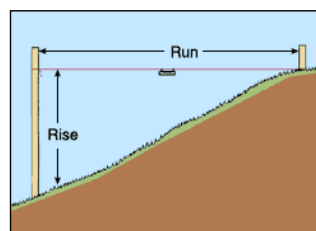

Figure 1
STEP 1. Measure the overall rise and run of your steps in inches (figure 1).